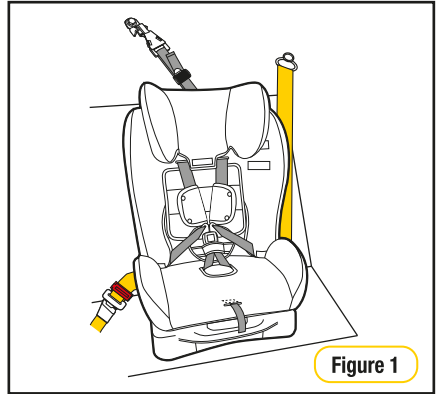

Figure 1
**Step 1:** Undo the adjustment nut which is located at the back of the restraint, to move the headrest either up or down (refer Figure 1).
**Step 2:** Remove each shoulder harness through the gates in the spreader plate (see Figure 1 & 4).
**Step 1:** Place the restraint in desired upright or reclined position, with the back against the back of the vehicle seat, directly in line with the anchorage point (refer Figure 1).